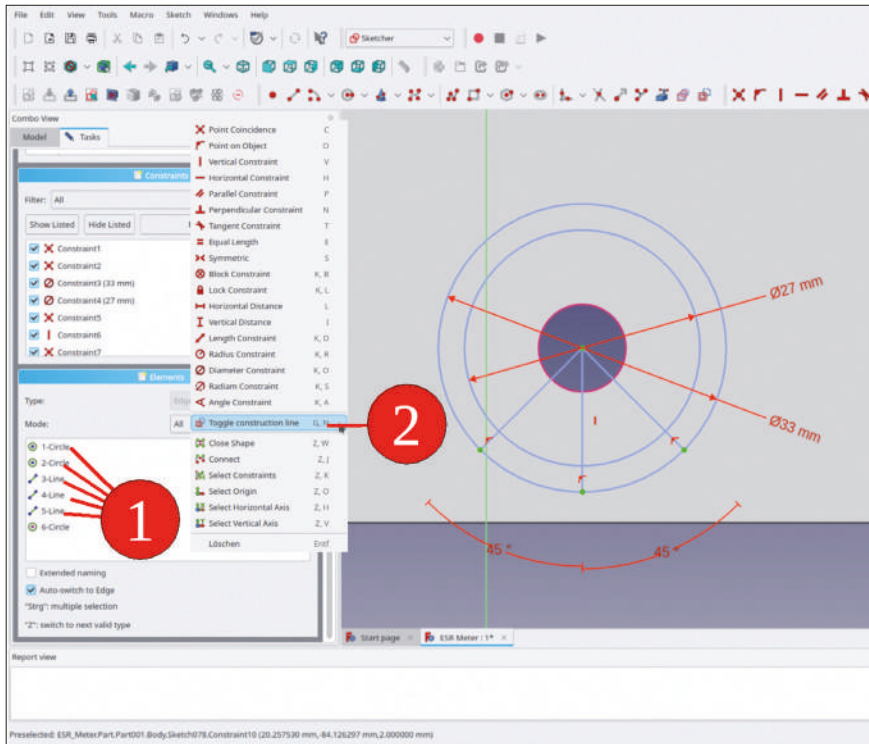

Figure 8-21
7. In the 'Elements' list, mark the two circles and all lines. Right-click the selection and select 'Toggle construction line' from the context menu (Figure 8-21).